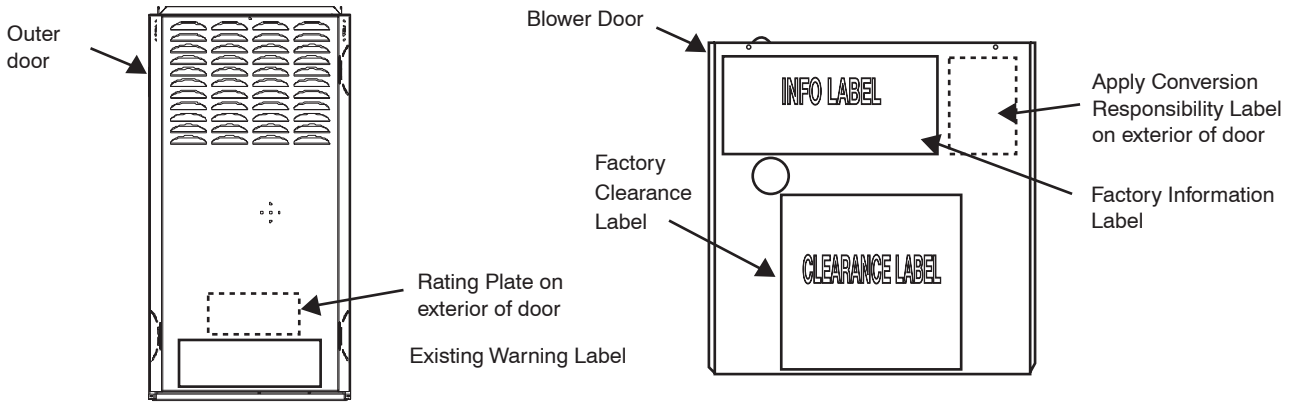

Fig. 18 - Label Application
1. Fill in Conversion Responsibility Label 334263-205 and apply to Blower Access Door of furnace as shown. (See Fig. 18.) Date, name, and address of organization making this conversion are required.
2. Attach Conversion Rating Plate Label 334263-207, see Fig. 18 to Outer Door of furnace.